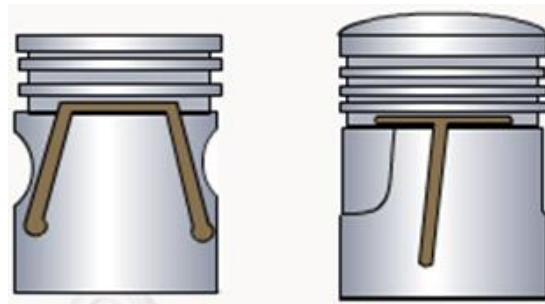

Fig.3
- ✓ Slotting near the piston skirt (Fig.3)